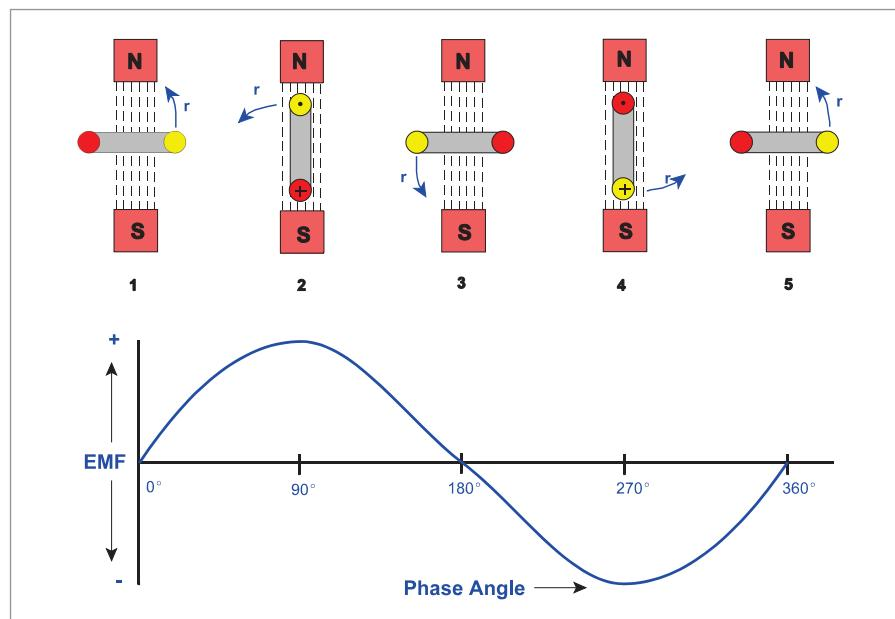

Figure 11.2 Production of AC
If this armature is rotated as in *Figure 11.2* then the flux is constantly changing. In positions 1, 3 and 5 the two sides of the loop are moving parallel to the field and so there is no voltage induced as there is no rate of change of flux. In positions 2 and 4 the two sides of the armature are moving at right angles to the field and the maximum voltage is induced as there is maximum rate of change of flux. In between these positions the induced voltage is between maximum and zero.
*Figure 11.2* shows one complete revolution of the generator armature and the associated rise and fall of induced voltage.